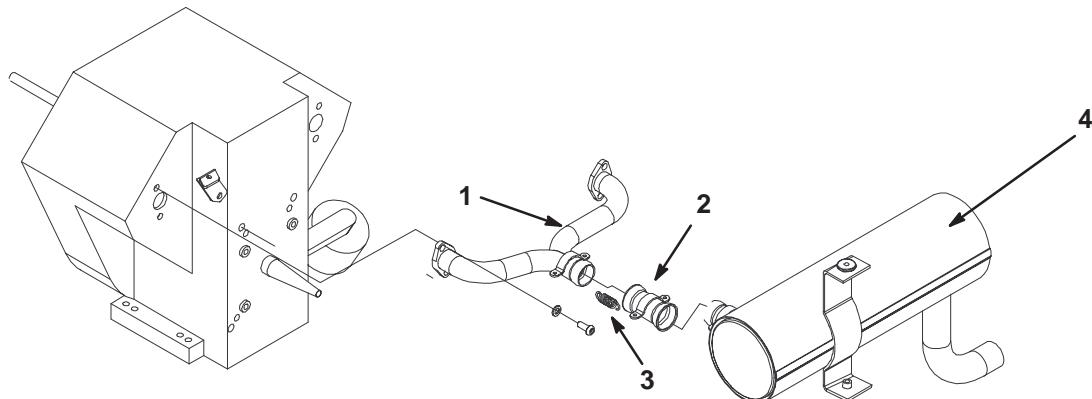

Figure 13
4. Install the new exhaust manifold, exhaust coupler, springs, and muffler, ensuring that you align the exhaust manifold gaskets correctly (Fig. 13).